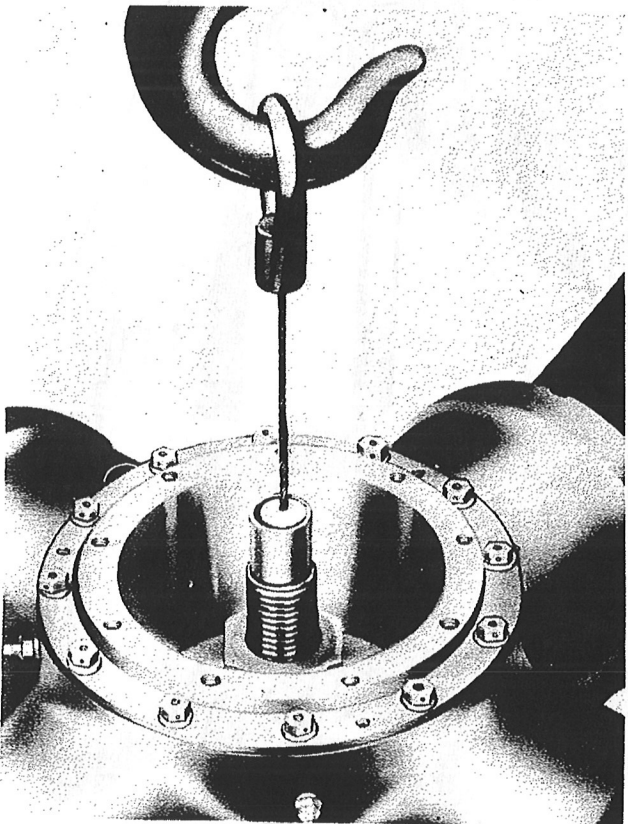

Figure 169—Propeller Unbalanced
- (n) Observe the position of the disc at the top of the balancer shaft in relation to the ring. If any part of the ring is visible, the propeller is heavy on the side where the ring shows. (See figure 169.)